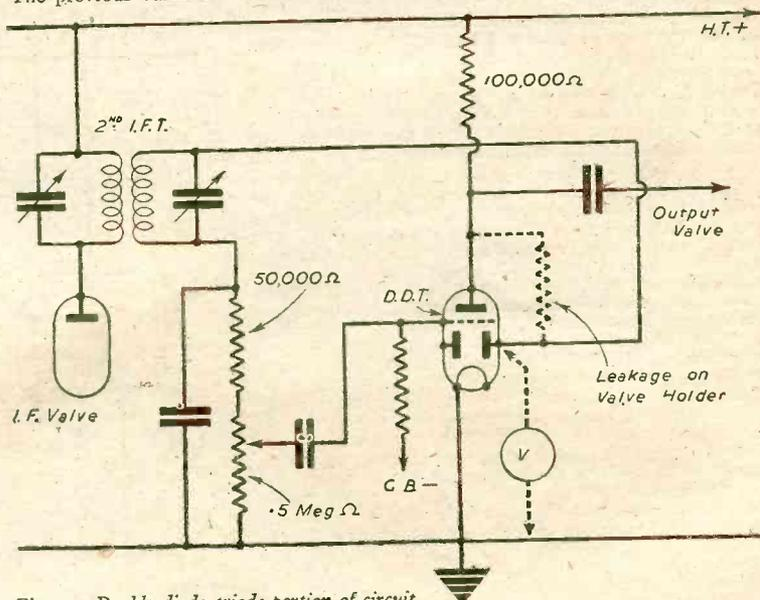

Fig. 4.—Double-diode triode portion of circuit.
The symptoms encountered here with this particular four-valve battery superhet were similar to those experienced in the last example, that is to say no signals, but loud background noises. After a careful check-round it was found that there was a small positive voltage (V) on the detector diode pin of the double-diode-triode valveholder even with the valve removed. A leakage between the primary and secondary windings (Fig. 4) on the second I.F. transformer would cause a potential divider to be formed across the H.T. supply. This would be composed of the leakage between the windings, the 50,000 ohm I.F. stopper resistor, and the 5 megohm variable diode-load. The insulation between the two windings was found O.K.
The most significant recent advance in picture tubes is the projection-type tube. Tubes of small diameter, with high accelerating voltage and correspondingly small-diameter beam, and with high-efficiency phosphors have been developed. These tubes are capable of producing images of such intense brilliance as to be dangerous to the eye when viewed directly. An image of 4in. by 3in., formed on such a tube with 60,000 volts acceleration has been magnified to 15ft. by 20ft. through the medium of a Schmitt optical system, with sufficient brilliance to hold the attention of a critical audience (about 20 per cent. of the normal brightness of motion-picture projection). Such a system (see Fig. 4, April issue) is considered to have great promise for theatre television.